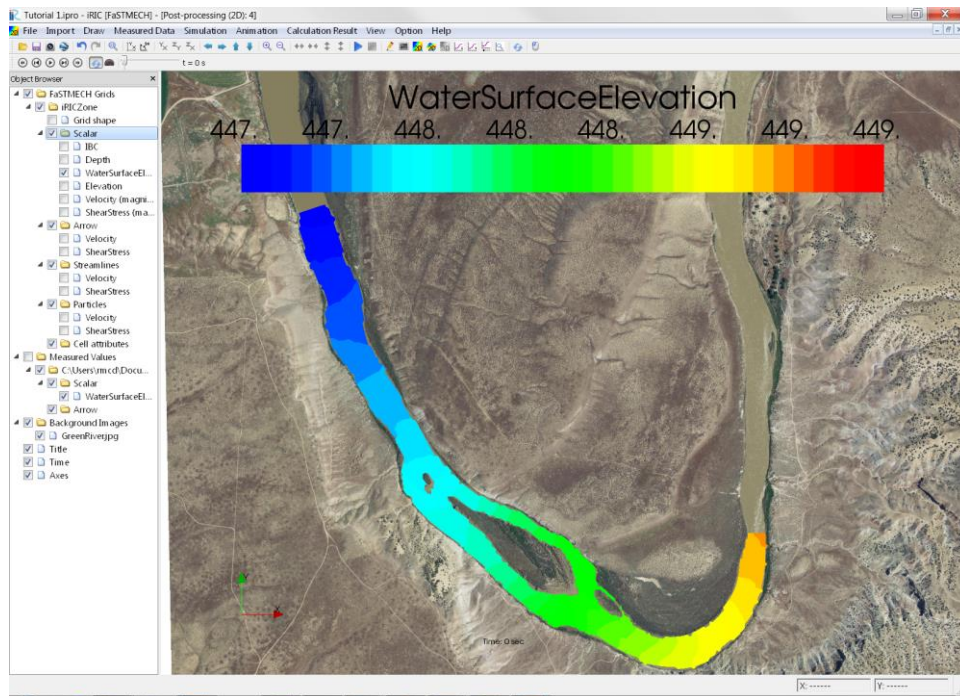

Figure 18. Example display of the simulated water-surface elevation.
- Experiment with these features and to achieve a satisfactory display of the model solution (Figure 18).